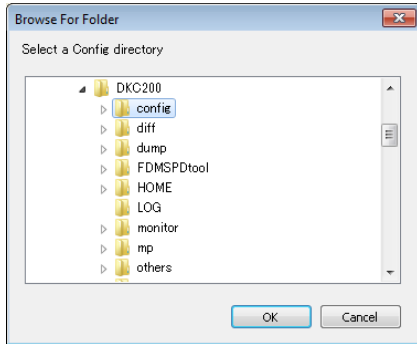
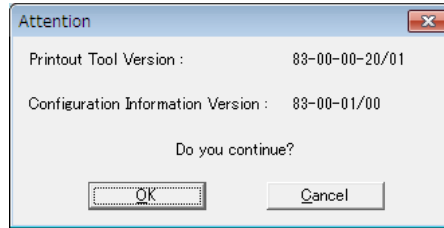
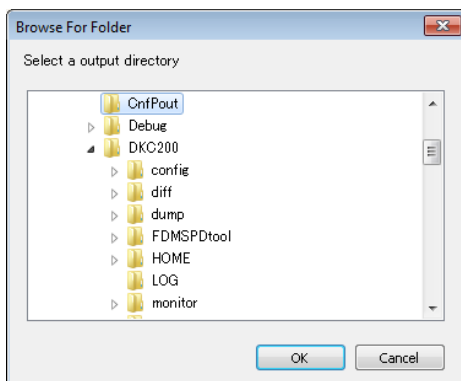

Figure 2 Configuration Information Directory Specification Window
Figure 4 Version confirmation Window
Figure 3 CSV File Output Directory Specification Window
(1) Specifying the configuration information directory
Specify the configuration information directory. You can also specify the configuration information directory through the window for specifying it (shown in Figure 2), which appears when the [Browse] button shown in Step (1) is pressed. (See Note 3, Note 4, Note 5, Note 6, and Note 7.)
(2) Specifying the CSV file output directory
Specify a directory for storing the configuration information specified in Step (1) in the CSV file format. You can also specify the output through the window for specifying it (shown in Figure 3), which appears when the [Browse] button shown in Step (2) is pressed. (See Note 3.)
(3) CSV file output button
When the [Create] button in Step (3) is pressed, the version confirmation window shown in Figure 4 is displayed. (See Note 8.)